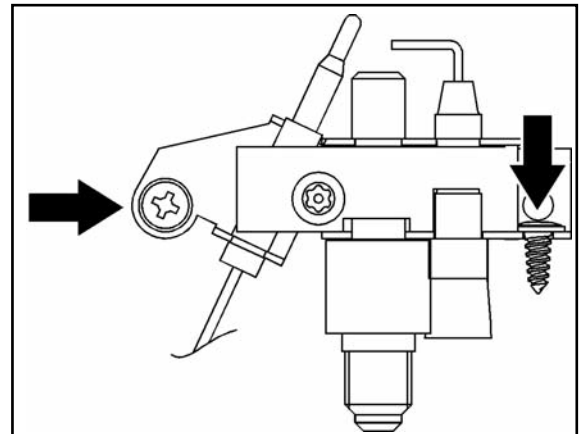

Figure 35.
6. Remove the two screws securing the pilot unit (See figure 35).